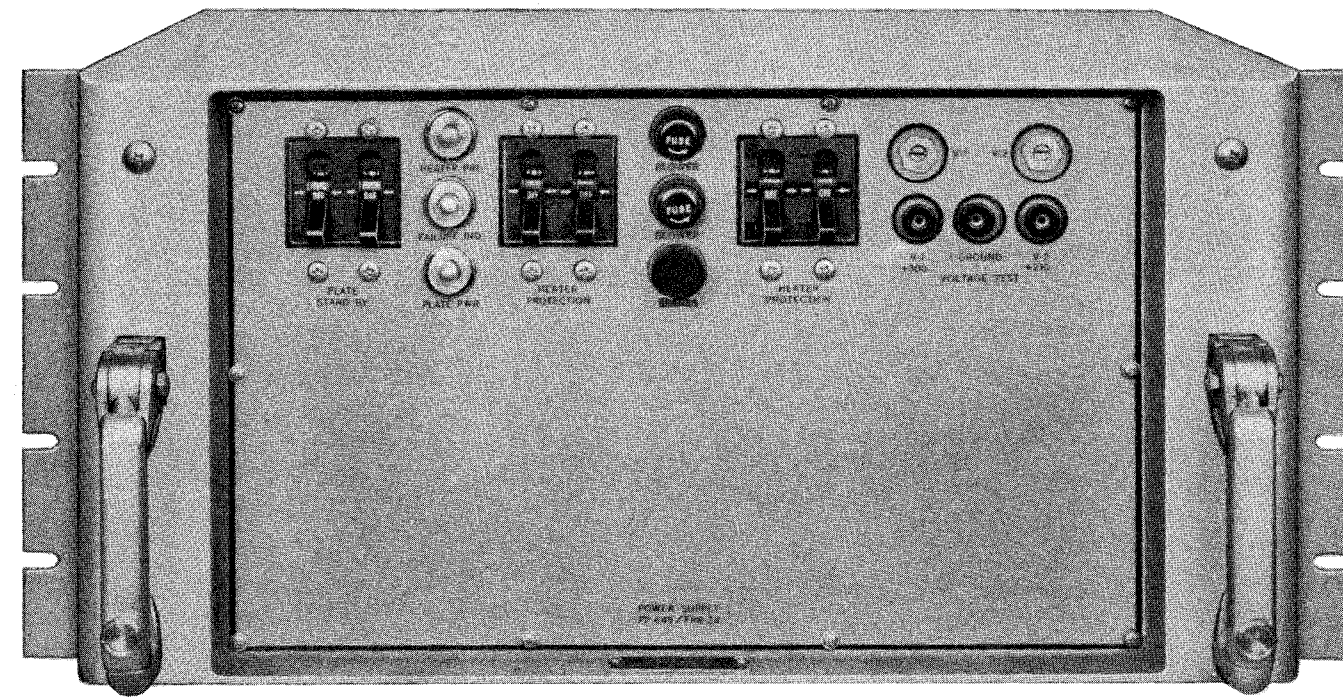

Figure 1-30. Power Supply PP-649/FRR-24
(16) POWER SUPPLY PP-649/FRR-24. (See Figures 1-30 and 1-31).—The PP-649/FRR-24 is a fifteen-tube electronically-regulated power supply located in bay 4 of the AN/FRR-24 Radio Receiving Set. The A.C. input circuit, filament transformer, plate transformer and rectifier circuits are similar to those in Power Supply PP-590/FRR-24 described in paragraph 2. b. (14). The A.C. input is connected from the Power Distribution Panel SB-141/FRR-24 to the PP-649/FRR-24 via the A.C. input connector J-2103. The A.C. control circuits are also similar to those in the PP-590/FRR-24 except that an additional Over-